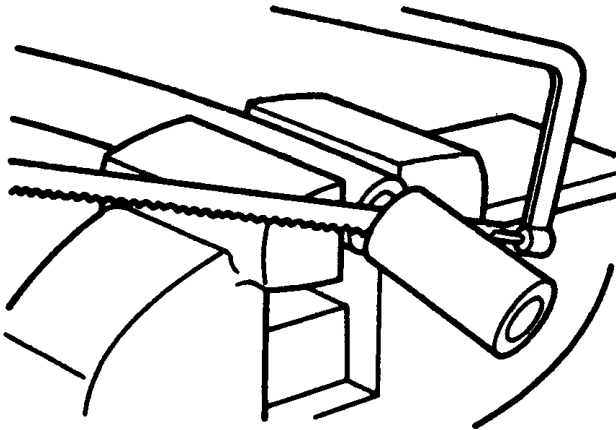

Figure 94 Hacksaw to Cut Hose
5. Use a fine-tooth hacksaw to cut hose to desired length (Figure 94).